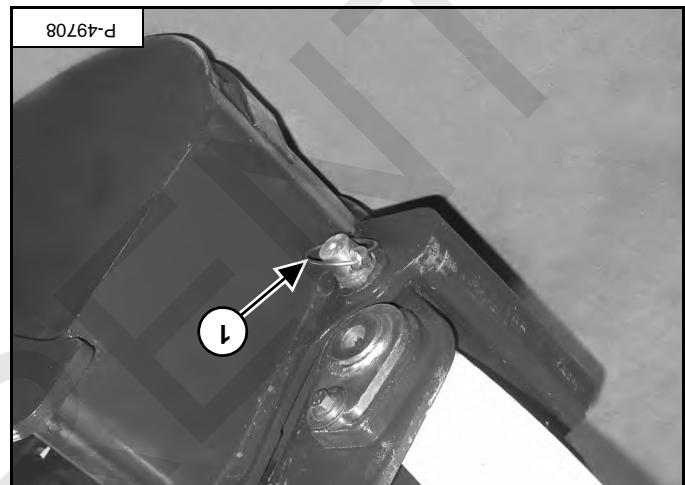

Figure 77
- Install the retainer pin (item 1) [Figure 77].